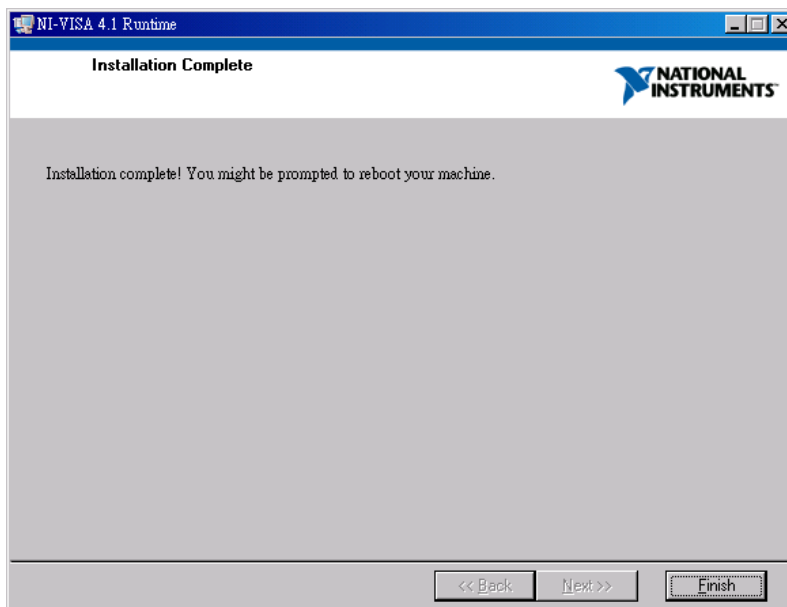

Figure 2-9 Screen of Installation Complete
3. Follow the prompt message to click **Next >>** and complete the installation procedure as Figure 2-9.